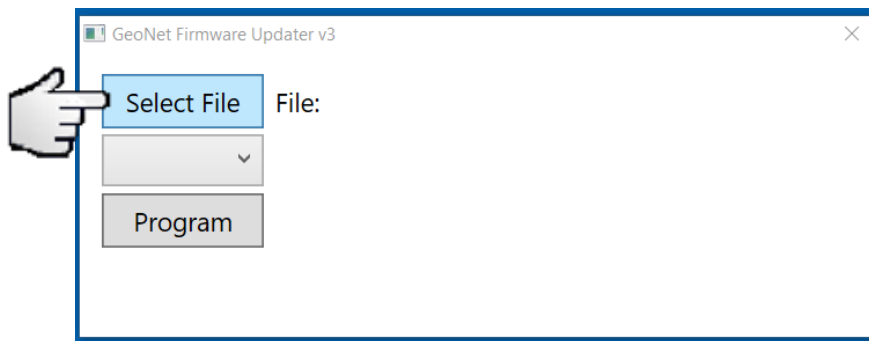

Figure 7- Click on “Select File”
8) Click “Select File” (Figure 7).